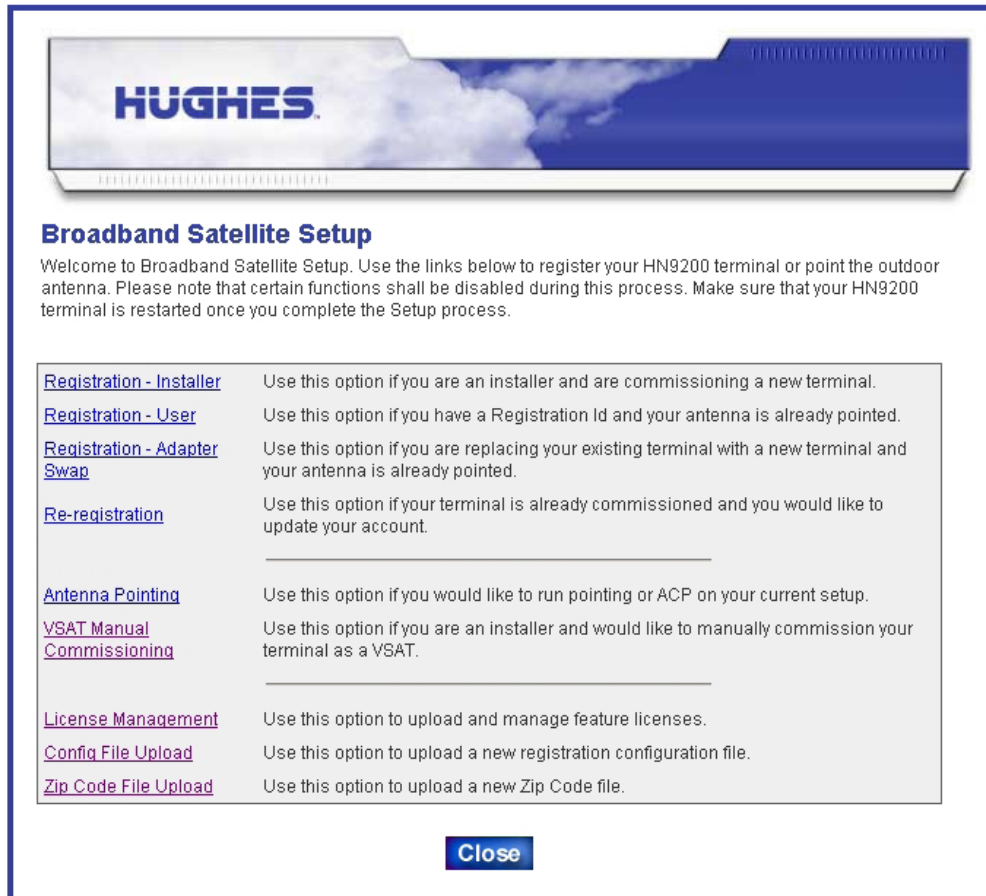

Figure 44: Satellite Setup menu
2. Type `http://192.168.0.1/fs/registration/setup.html` in the browser address bar and press **Enter**. The Satellite Setup menu opens (*Figure 44: Satellite Setup menu* on page 51).